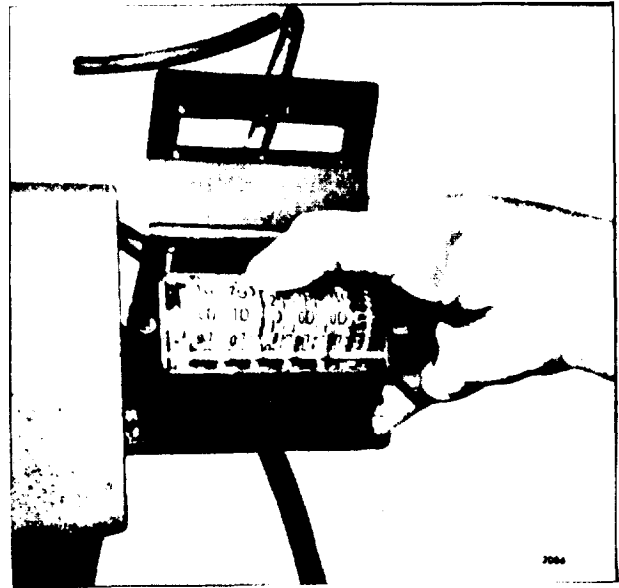

Fig. 18 - Setting Comparator Stroke Counter
**IMPORTANT:** Make sure the counter on the comparator is preset to 1000 strokes. If, for any reason, this setting has been altered, raise the cover and reset the counter to 100 strokes by pulling the selector wheel to be changed to the right and rotating it to its proper setting (Fig. 18). Then release the wheel and close the cover. Refer to the comparator instruction booklet for further information.